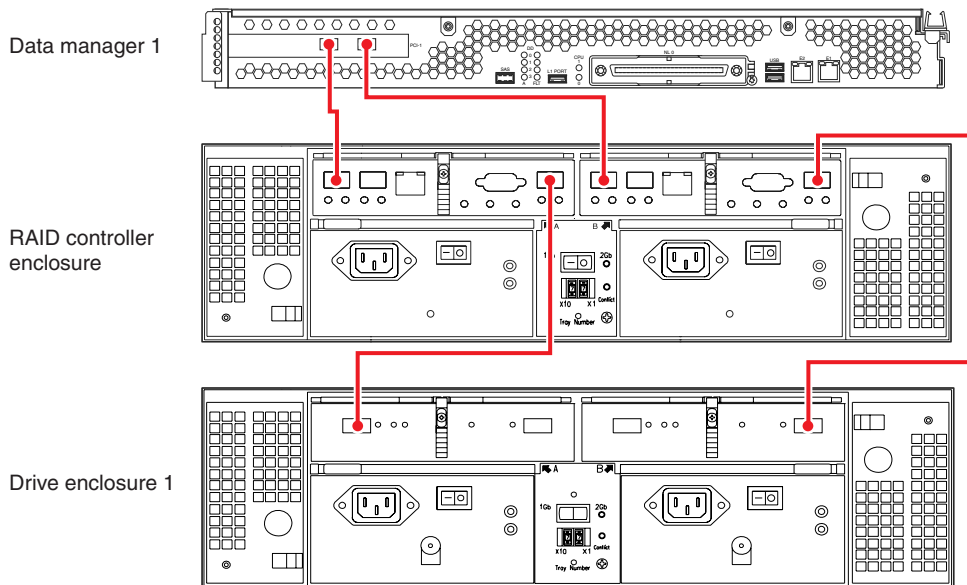

Figure 1-7 Single-module Data Manager, Dual Controller RAID, One Disk Expansion
Use the following steps and Figure 1-7 to cable a single-module data manager to a dual-controller RAID enclosure and one drive expansion enclosure.
1. Connect the Data Manager's Fibre Channel PCI card port A (blue label [1A]), to RAID controller A's port 1 (blue label [1A]) on the left side of the controller enclosure, see Figure 1-7.